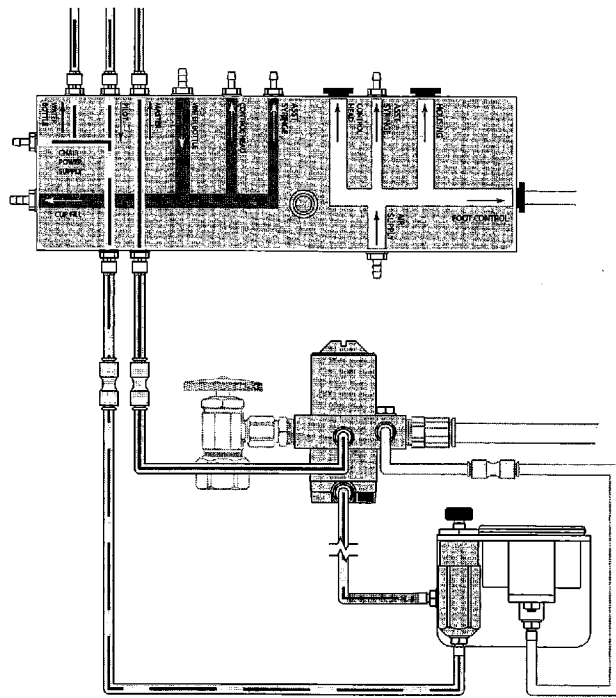

Figure 43. Before connecting the master toggle.
4. Attach the master air from the toggle to the master air tee (see Figures 43 and 44).